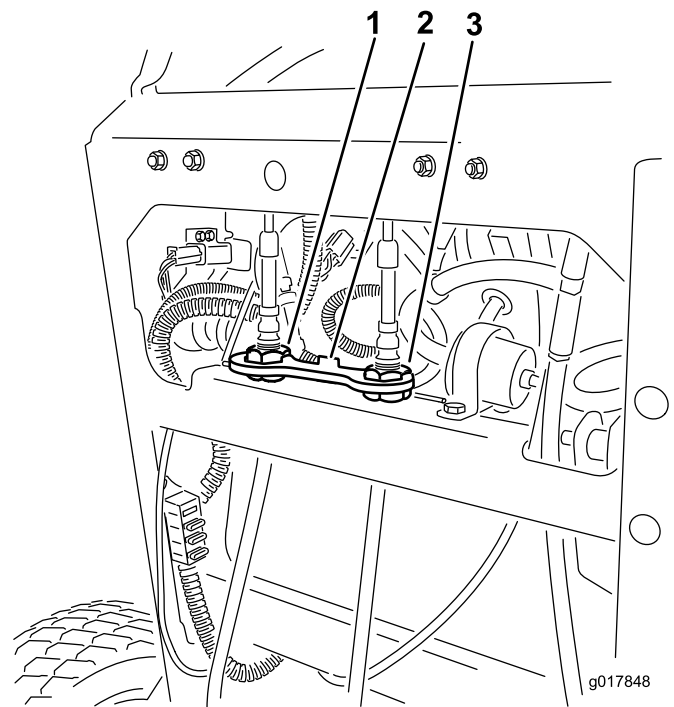

Figure 57
4. Rotate the right cable adjustment to position the right motion control in the center of the control panel neutral-lock slot (Figure 57).